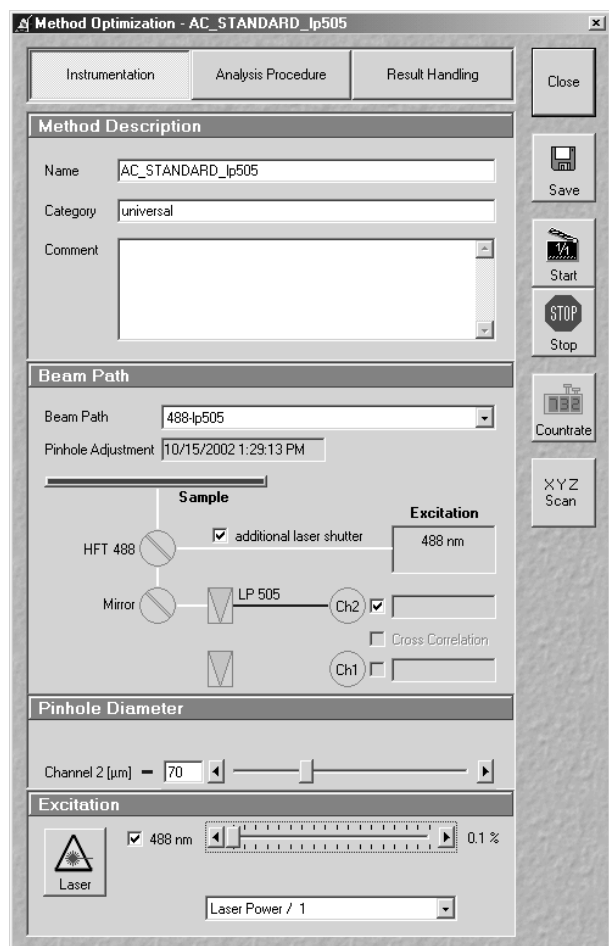

Fig. 5-179 Method Optimization ... window (Instrumentation subwindow)
- Click on the **Instrumentation** button on top of the **Method Optimization ...** window (Fig. 5-179).
(1) Method Description panel